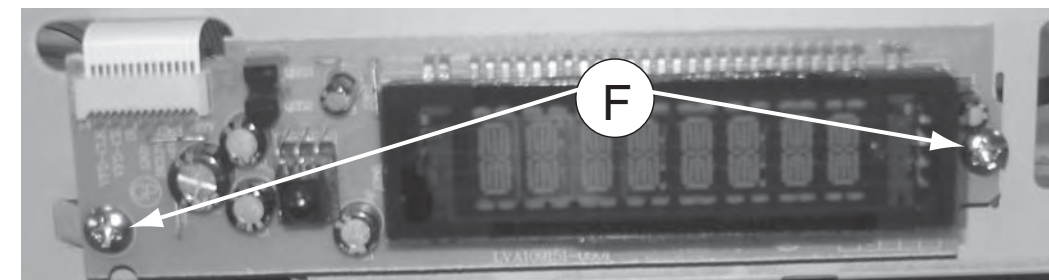

Figure 8
- 1) Loosen 2 screws "F" on the top of VFD Board as shown in figure 8.